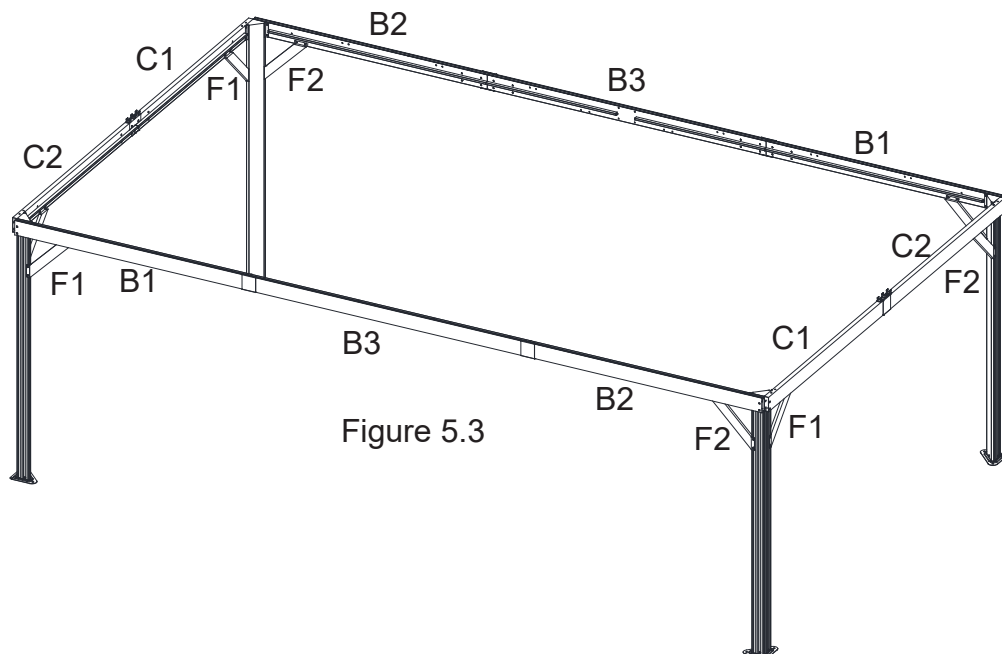

Figure 5.3
5.3. Repeat for all Corner Posts and Lintels. Tighten All Bolts. See Figure 5.3.